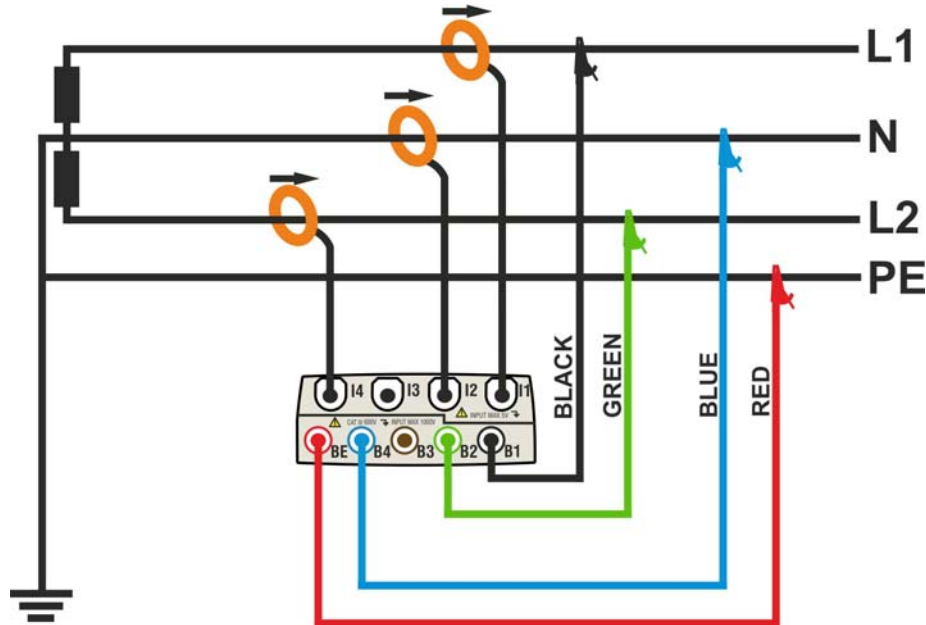

Fig. 173: Meter connection in a two phase 3-wire 1PH3W system
2. Connect voltage test leads on Phases L1, L2, N and PE cables considering the colours as shown in Fig. 173
3. Connect the transducer current clamps on Phase L1, L2, N cables as shown in Fig. 173 respecting the clamp's arrow direction indicating the current standard sequence from generator to load. **On Real Time Values' section screens (selecting a 3 wire system preliminarily) always verify the positive value of Active Power and the power factor relative to load which should be normally inductive** before starting a recording. Reverse the clamp by 180 degrees on cables in case of negative readings.